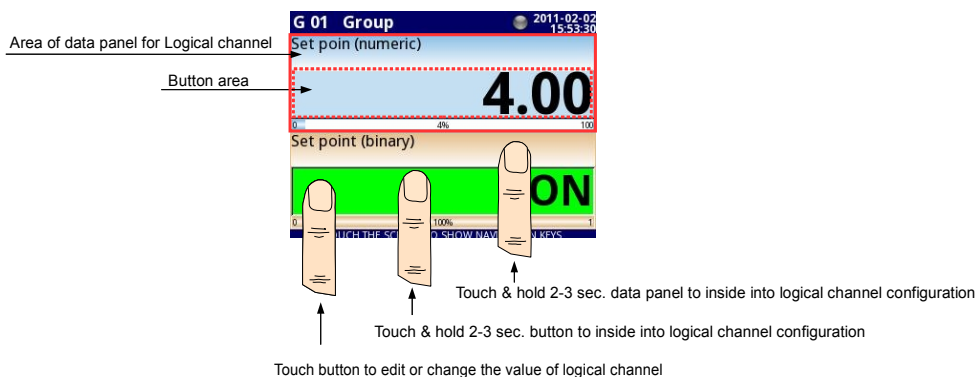

Fig. 7.43. Data panels for Logical channel in **Set point value** mode
- **Edit button** - this parameter allows you to activate the button in the panel data (see Fig. 7.43), this parametr has two options: